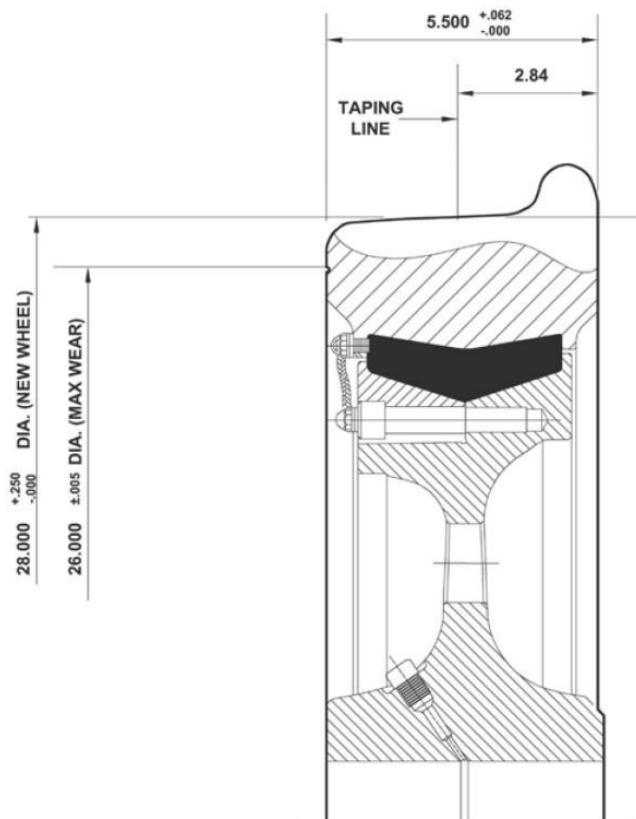

Figure 17 - TRUCKS WHEEL PROFILE
- b. Wheel Dimensional Data and Wheel Dimensions shown in the Fig 17.